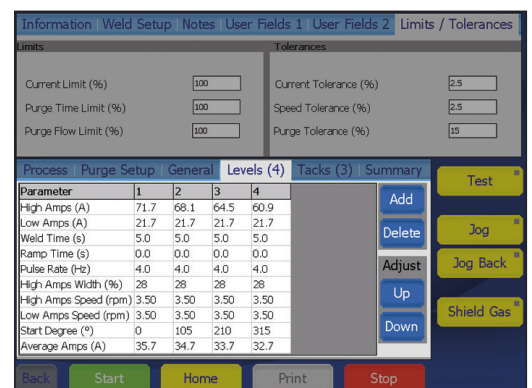

Fig. 29—Levels Tab
Levels (X) (Fig. 29)	A level is a section of the weld procedure defined by the parameters shown in Fig. 29. Parameters can be varied by level. A weld procedure can have from 1 to 99 levels. The number in parentheses indicates the number of levels specified in that weld procedure. Levels are shown in the process window in real time during the weld. To add a level, press the top of a column to highlight it, then press the Add button on the right side of the window. A new column containing a copy of the selected column's data will be added after the selected column. Repeat for additional levels. To delete one or more levels, press the top of the column or columns to select them. Press the Delete button on the right side of the window. Adjusting Average Amps Adjust Up / Down allows a user with a security password to make Average Amps adjustments within the limits and tolerances set by the owner or programmer. Select the level or levels to be adjusted and press the up or down buttons to adjust Average Amps (page 30) within the limits in a weld procedure defined by the programmer. If no level is selected, all levels are affected by Adjust Up / Down. Average Amps is reduced with the down button or increased with the up button. ■ The first three presses of the up or down button increase or decrease High Amps Width in increments of 10 %, up to 30 %. ■ The next three presses of the up or down button increase or decrease High Amps in increments of 10 %, up to 30 %. ■ The final three presses of the up or down button increase or decrease Low Amps in increments of 10 %, up to 30 %. To return to the original values for the weld procedure you must reload the program from memory. See Limits / Tolerances, page 30, for more information.